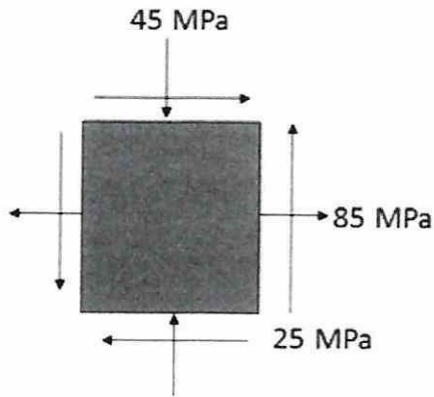

Figure Q6(c)
- (c) The state of plane stress shown occurs at a critical point of Cessna 172 landing gear is shown in **Figure Q6(c)** where $\sigma_x = 85$ MPa, $\sigma_y = -45$ MPa, and $\tau_{xy} = 25$ MPa. As a result of several tensile tests, it has been found that the tensile yield strength is $\sigma_Y = 250$ MPa for the grade of steel used. Determine: